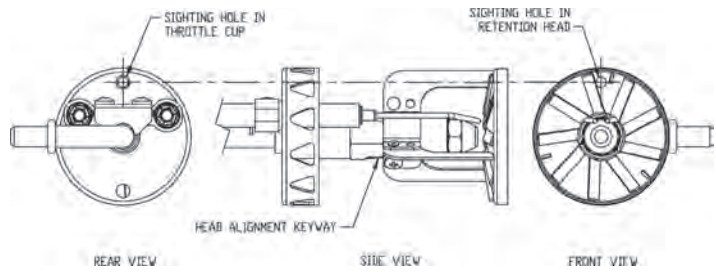

Figure 33: Retention Head/Throttle Cup Alignment
- Check retention head alignment. Cad cell sighting holes in the throttle cup and retention head must line up, so the cad cell can see the flame. Make sure that, the “stamped key” in the retention head collar lines up with the “keyway” in the nozzle adapter, when mounting the retention head. See Figure 33.